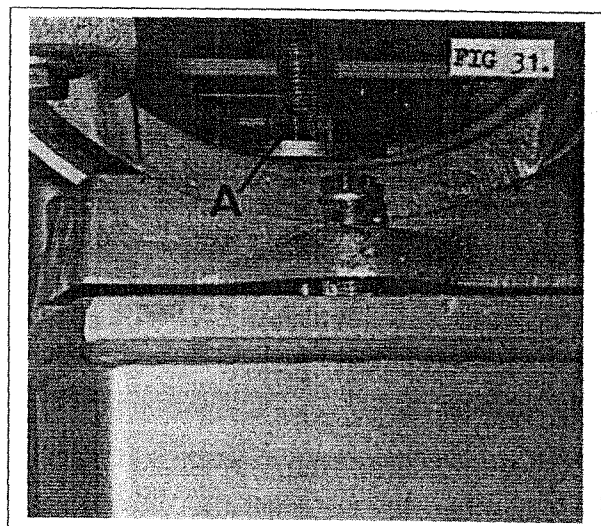

Fig 31
2. Loosen nut 'A' (FIG 31).
3. Cant table to desired angle and relock nut 'A' (FIG 31).